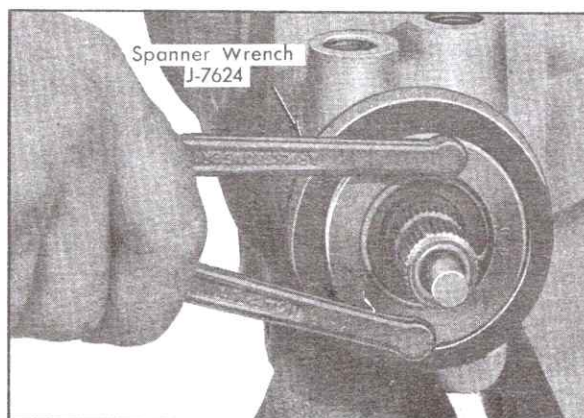

Fig. 9-24 Removing Adjuster Plug Assembly
15. Loosen adjuster plug assembly, using Spanner Wrench J-7624, Fig. 9-24, and remove from housing.